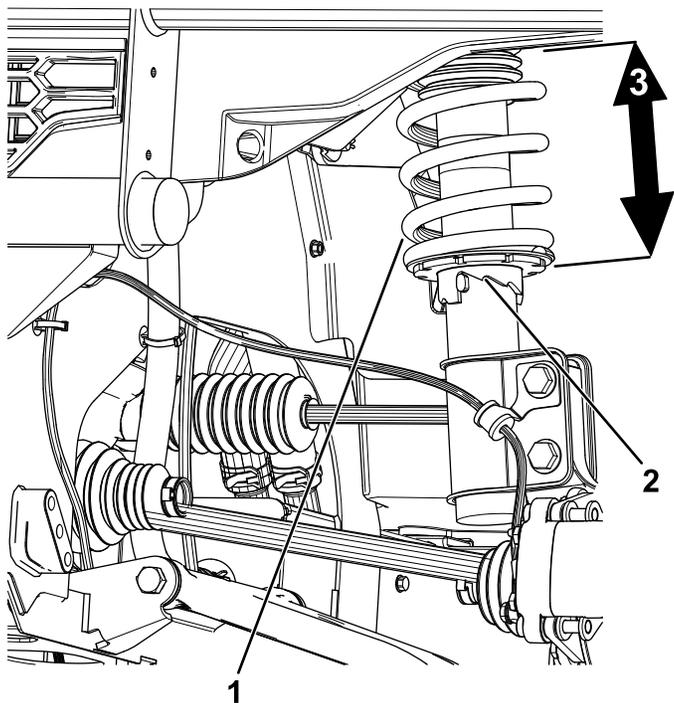

Figure 51
2. If the ground clearance is not correct, use the spring-adjuster wrench to rotate the collar on the shock absorber to align the wheel (Figure 51).